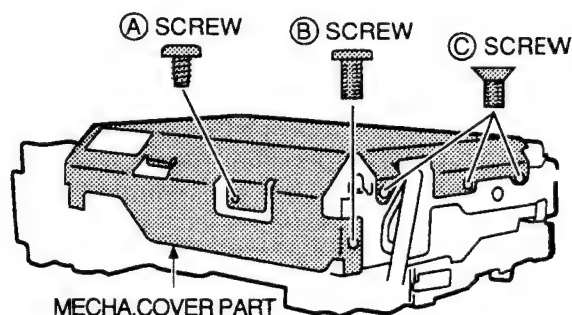

Fig. 3-8
2. Remove the (A), (B) and three (C) screws as shown in Fig. 3-8.